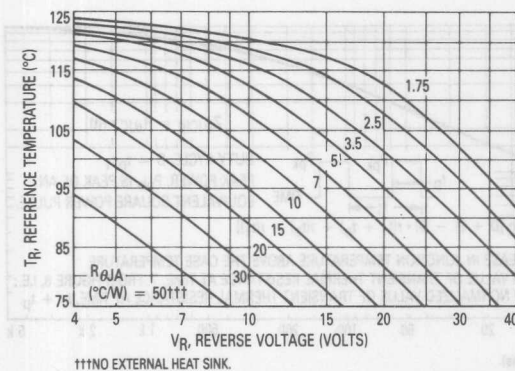

Figure 3. Maximum Reference Temperature — 1N5831
Step 2: Find T_R from Figure 3. Read $T_R = 113^\circ\text{C}$ @ $V_R = 9.18 \text{ V}$ & $R_{\theta JA} = 5^\circ\text{C/W}$